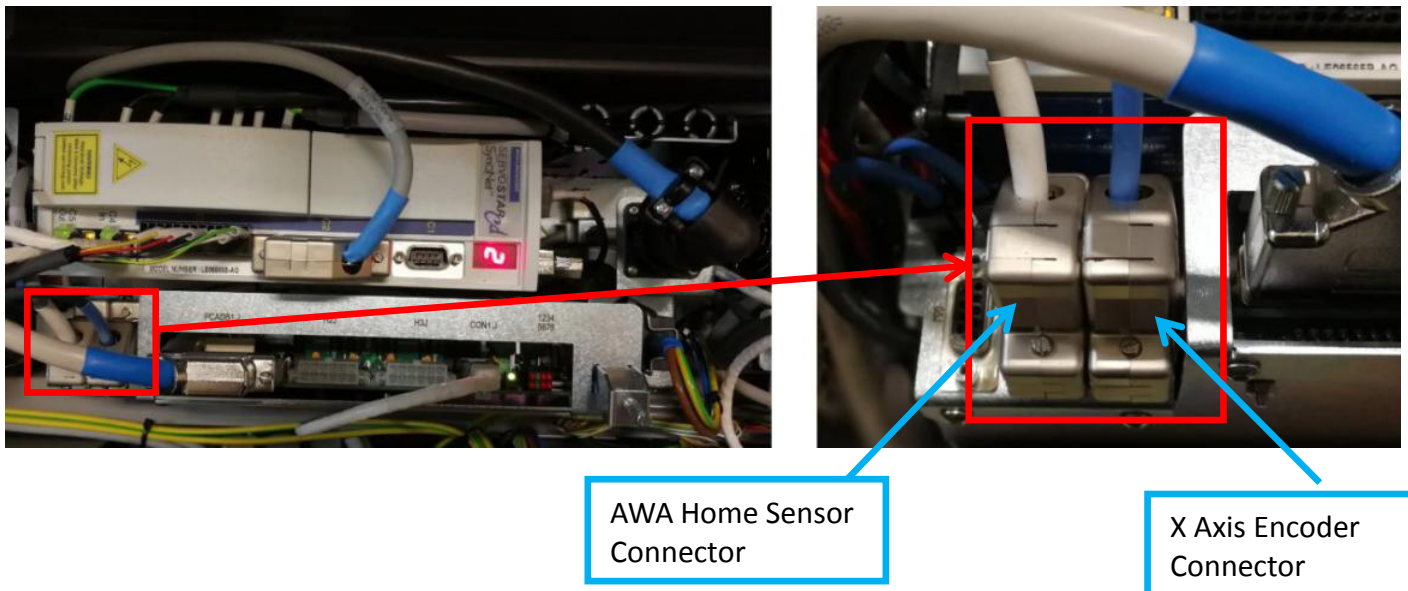

Figure 7
10. Disconnect X axis encoder & AWA Home Sensor connector from 07J & 06J as Figure 7